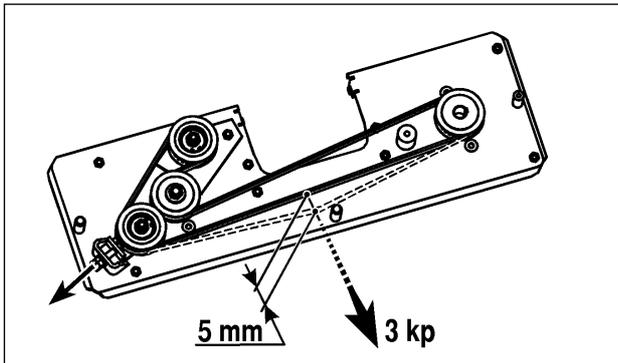

Fig. 33
MOWER DECK BELT (FIG. 33)
5. Adjust nut M10 until the specified tension at cog belt is reached. (See Fig 33)
| Mower cog belt | See Fig 33 |